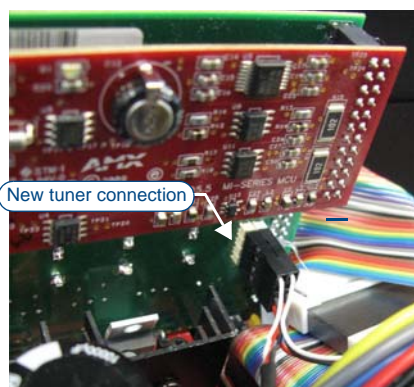

FIG. 70 Connection of the cable to the left-side pins on the back of the interface board.
7. *On units with green Interface Boards only:* Connect the supplied cable from the tuner to the Interface Board as shown in FIG. 70.